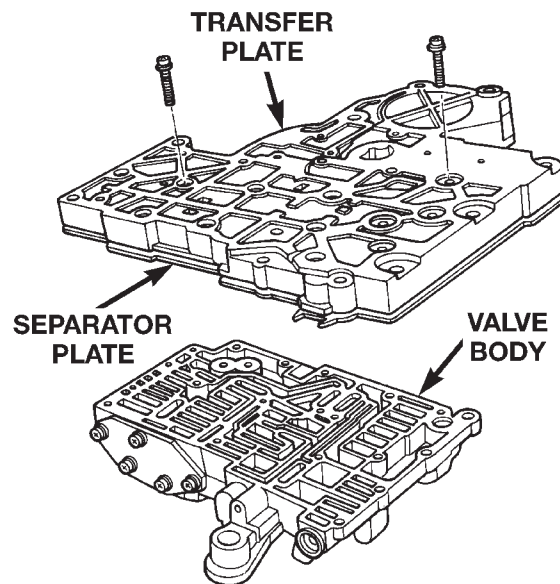

Fig. 63 Valve Body Transfer Plate Screws
(26) Place transfer plate in position on valve body (Fig. 63).
(27) Install screws to attach transfer plate to valve body (Fig. 63).
(28) Turn valve body over to expose the separator plate.